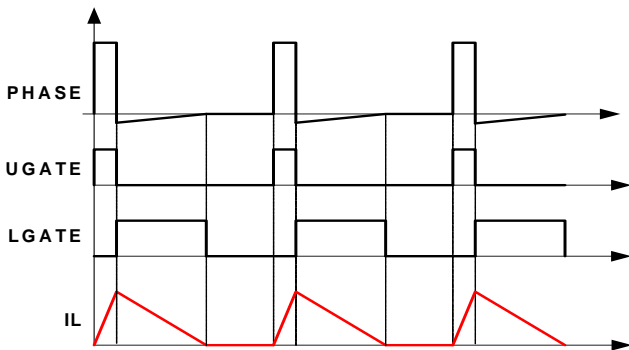

FIGURE 10. DIODE EMULATION
The ISL62773 can operate in diode emulation (DE) mode to improve light-load efficiency. In DE mode, the low-side MOSFET conducts when the current is flowing from source to drain and does not allow reverse current, thus emulating a diode. Figure 10 shows that when LGATE is on, the low-side MOSFET carries current, creating negative voltage on the phase node due to the voltage drop across the ON-resistance. The ISL62773 monitors the current by monitoring the phase node voltage. It turns off LGATE when the phase node voltage reaches zero to prevent the inductor current from reversing the direction and creating unnecessary power loss.
If the load current is light enough, as Figure 10 shows, the inductor current reaches and stays at zero before the next phase node pulse, and the regulator is in discontinuous conduction mode (DCM). If the load current is heavy enough, the inductor current will never reach 0A, and the regulator is in CCM, although the controller is in DE mode.